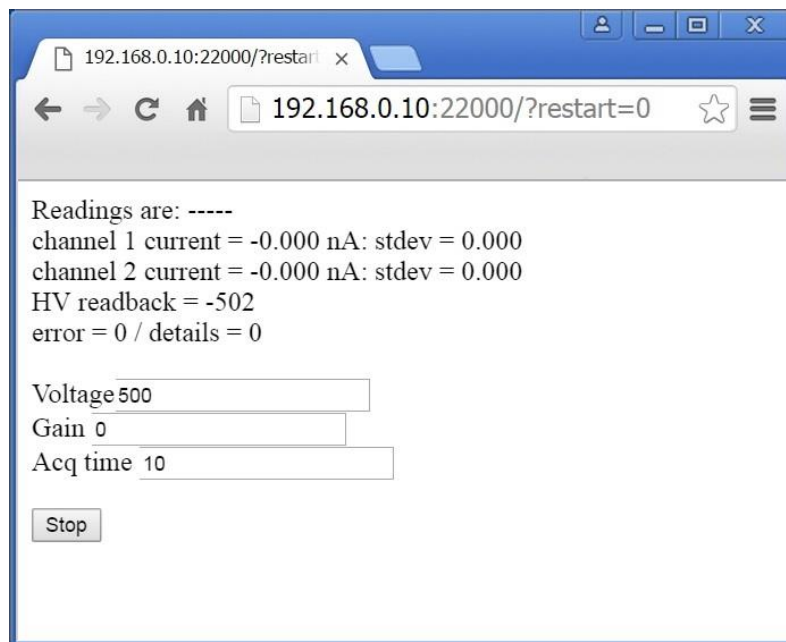

Figure 4. UDCM operating display
- d. The user interface shown in Figure 4 will be displayed in the web browser.